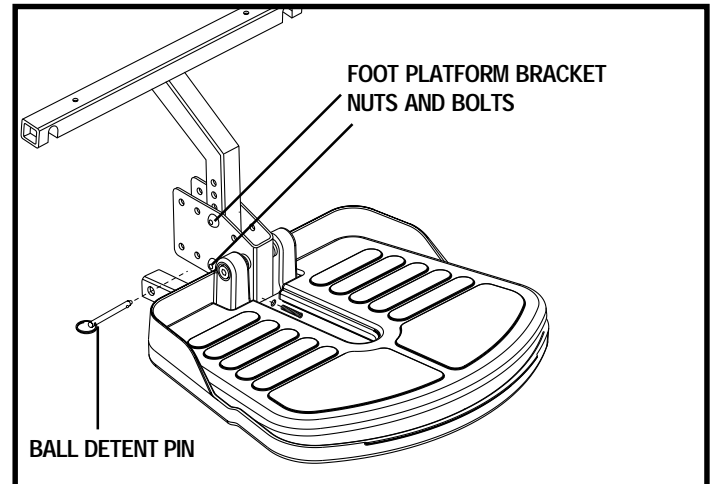

Figure 18. Foot Platform Height Adjustment
1. Remove the nuts and bolts from the foot platform bracket. See figure 18.
3. Locate and remove the ball detent pin at the base of the footrest bracket. See figure 18.